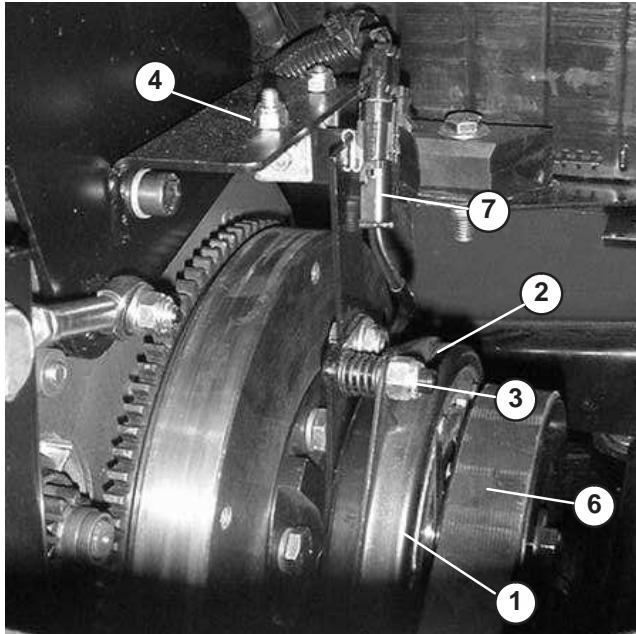

Figure 46
- 4.** Rotate PTO pulley toward the engine and remove the belt (Fig. 46).
2. Remove the left hand clutch retainer bracket nut and bolt so that the retainer bracket rubber bumper can be removed (Fig. 46).
3. Unplug clutch electric connector (Fig. 46).
4. Adjust the air gap so that a .017 inch feeler gauge slides in between the clutch lining and friction plate with light pressure (Fig. 46). The gap can be decreased by turning the adjusting nut clockwise.